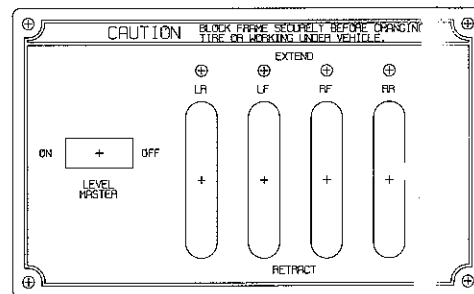

Figure 2-20. Leveling Jack Controls
Overall system operation is controlled and monitored at the leveling jack controls, while each jack is independently operated by one of four respective **EXTEND-RETRACT** levers located on the floor to the left of the driver, figure 2-20. A dash indicator and a buzzer (when ignition switch is on) provide visual and audible signals to show that the associated leveling jacks are not stowed to a safe travel position.
- ① Set **LEVEL MASTER** switch (see figure 2-20) to **ON** position. Note that the **LEVEL WARNING** indicator will light. **LEVEL SYSTEM** indicators **LF**, **RF**, **LR** and **RR** are lit only when the respective corner of the coach is low.
② De-pressurize the tag axle by setting **TAG DUMP** switch to **DUMP**; de-pressurize front and rear axle by setting associated **SUSP. DUMP** switch to **DUMP**.